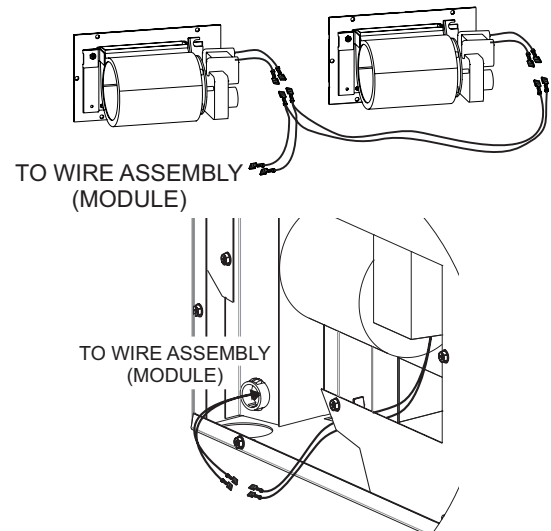

Figure 12
7. Remove protective connectors on Wire Assembly from fireplace and discard. Connect Wire Harness to both blowers and the other end to the Wire Assembly supplied with the fireplace. See **Figure 12**.